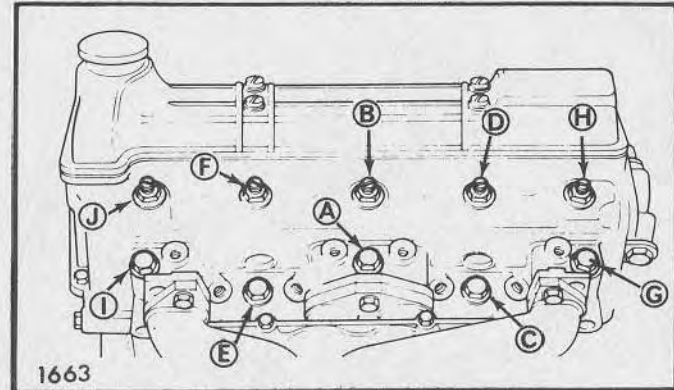

Fig. 17 TR7 cylinder head fastenings
- (1) To avoid distortion of the cylinder head it is important that the retaining nuts and bolts are tightened in alphabetical order, as illustrated, to the correct torque of 7,6kgf m (50 ft/lb).
- (2) When releasing the nuts and bolts, prior to removing the cylinder head, the sequence must be reversed.
- (3) When checking the torque loading of the nuts and bolts they should first be slackeden off to overcome static friction and then re-tightened to the correct torque figure 17.